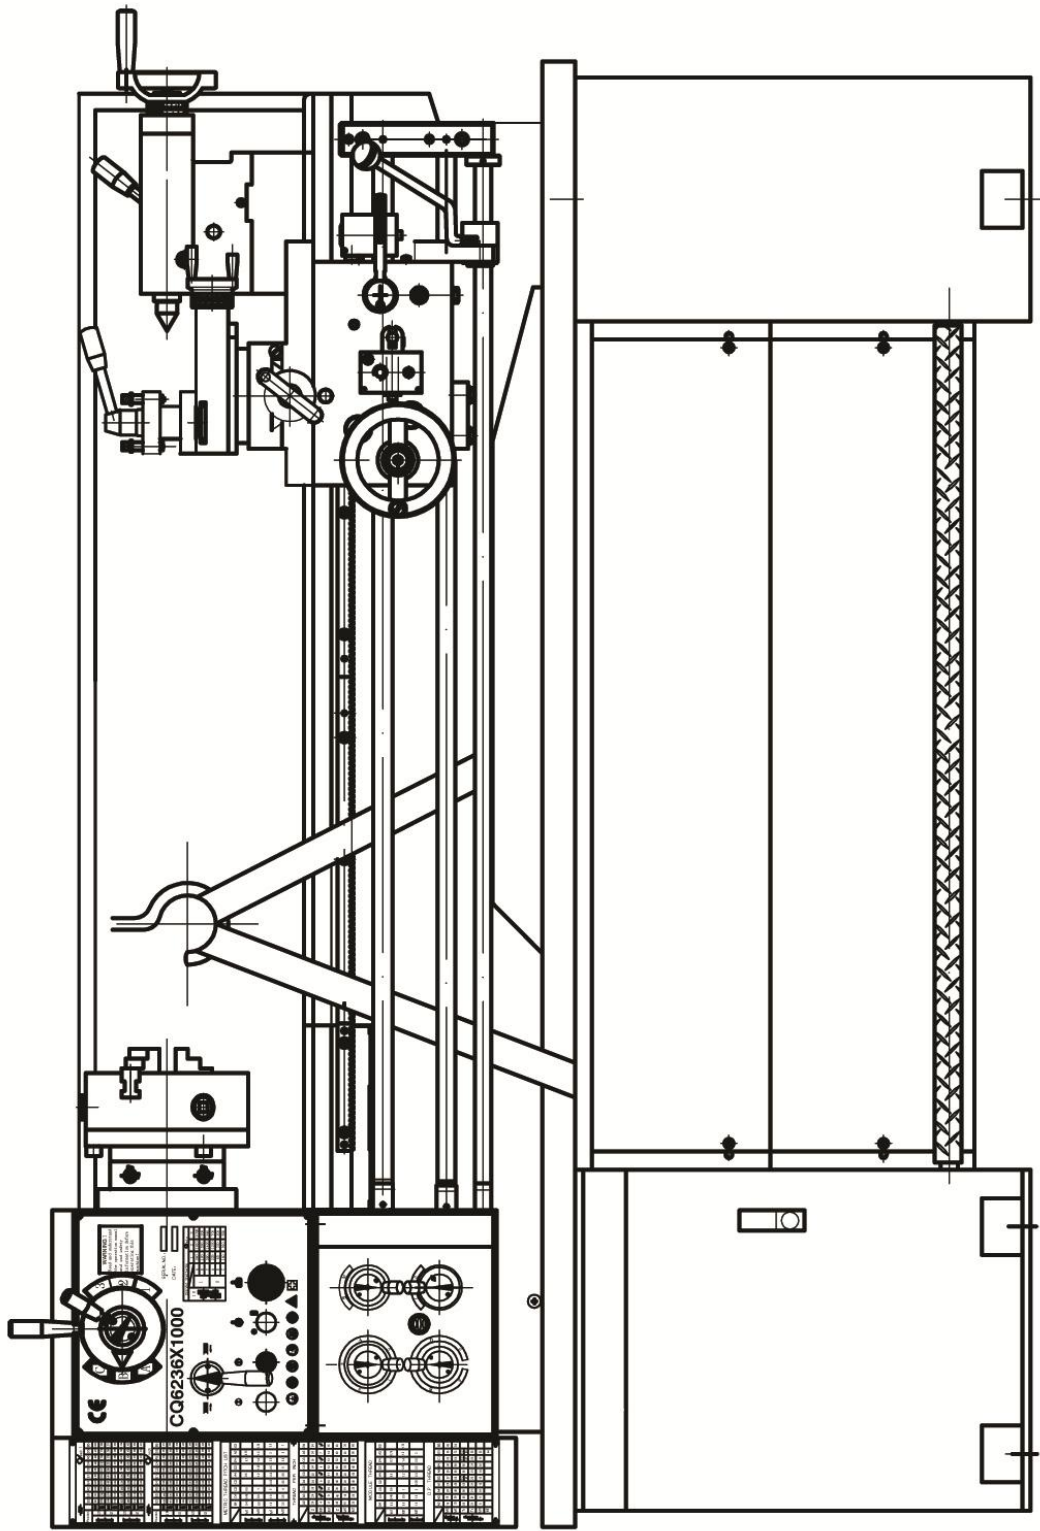

Fig2 Hoisting position
- 2、 Sling lathes as shown in the hoisting Fig2 when it is being transported